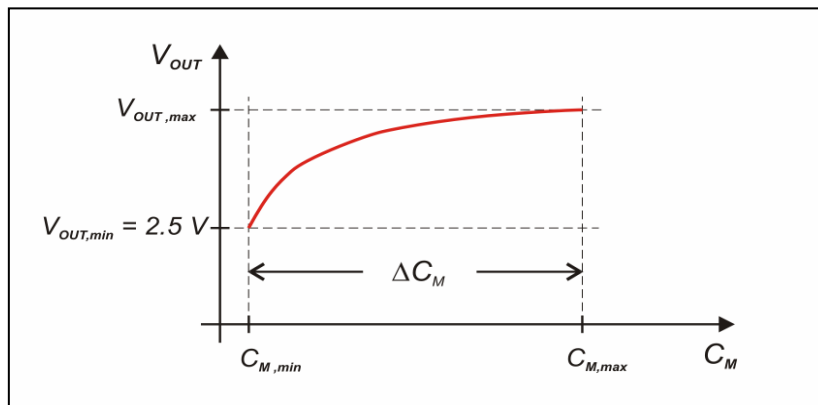

Figure 5: Output signal V_{OUT} as a function of the measurement capacitance C_M
Equation (10) is illustrated in *Figure 5* for the measurement range $\Delta C_M = C_{M,max} - C_{M,min}$, wherein $C_{M,max}$ is the specific maximum measurement capacitance of the measurement setup. For $C_M = C_{M,min}$ equation (10) leads to $V_{OUT}(C_{M,min}) = V_{REF}$.